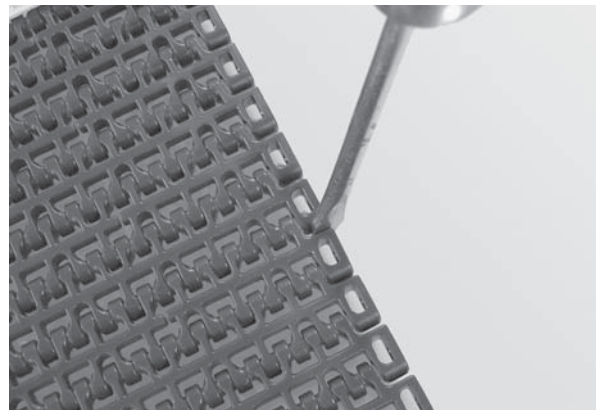

Figure 50
1. Place the edge of a flat head screwdriver between the two belt links and turn clockwise (**Figure 50**).